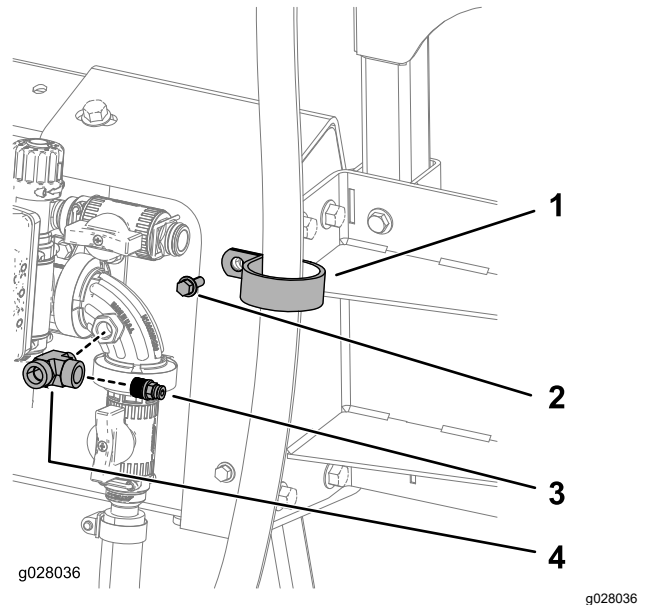

Figure 37
1. Secure the hose 180 cm (71 inches) to the upper bracket using a R-clamp, bolt (1/4-20 x 3/4 inch), and nut (1/4-20 inch) as shown in Figure 37.
2. Apply PTFE sealant to the threads on the T-fitting and connect the T-fitting to the control valve (Figure 37).
3. Apply PTFE sealant to the threads on the coupler and connect the coupler to the T-fitting (Figure 37).